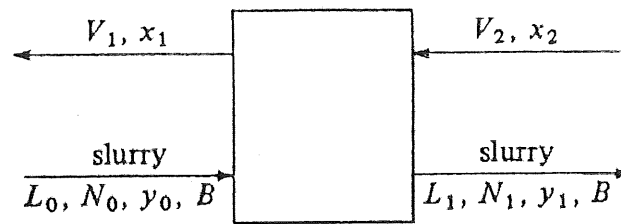

Figure 2: Process Flow
- a) Describe three (3) applications of each, leaching and liquid-liquid extraction in chemical process industries (6 marks)
- b) A slurry of flaked soybeans weighing a total of 100 kg contains 75 kg of inert solids and 25 kg of solution with 10 wt % oil and 90 wt % solvent hexane. This slurry is contacted with 100 kg of pure hexane in a single stage so that the value of N for the outlet underflow is 1.5 kg insoluble solid/kg solution retained. The process flow is shown in Figure 2.
- i) Show the amount of V_2 , x_{A2} , x_{c0} , x_{c2} , L_0 , y_{A0} in Figure 2 (6 marks)
- ii) Compute total flow rate (M), ratio of solid to solution (N_0), x_{AM} and N_M (8 marks)